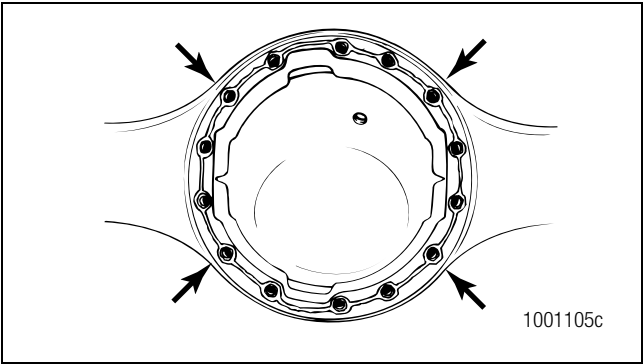

Figure 5.81
7. Install nuts and washers or capscrews and washers, if equipped, into the four corner locations around the carrier and axle housing. Hand-tighten the fasteners. Figure 5.81.
- Carefully push the carrier into position. Tighten the four fasteners two or three turns each in a pattern opposite each other. Figure 5.81.